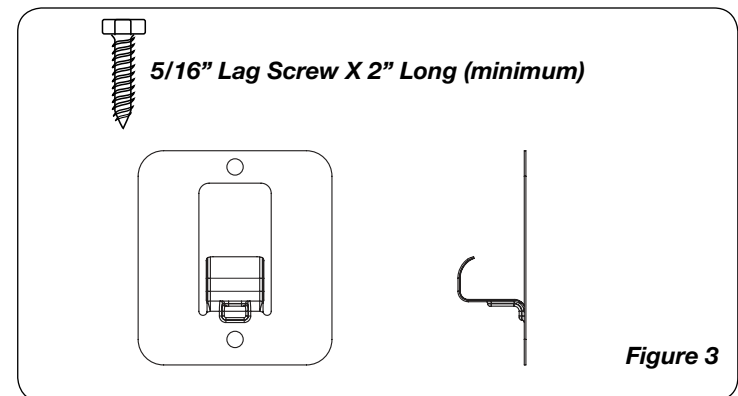

Figure 3
Your fan may be wall mounted using the new QuickMount® wall bracket supplied with your fan. (Figures 3 and 4)
3. Fasten wall bracket to mounting surface using 2 appropriately sized fasteners. Drill pilot holes as necessary. (See Figure 3).